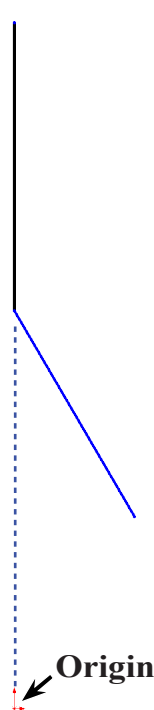
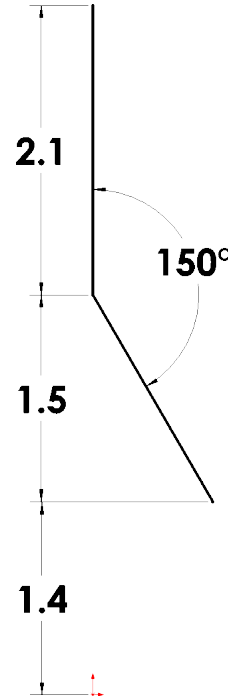

Fig. 2
Fig. 3
Step 3. Click **Line** (L) on the Sketch toolbar.
Step 4. Sketch a line starting directly above the Origin but do not sketch the line to the Origin, **Fig. 2**. Sketch a second line from bottom endpoint of first line at angle to the right. Do not bring the angle line down to Origin.
Step 5. Click **Smart Dimension** (S) on the Sketch toolbar.
Step 6. Add dimensions, **Fig. 3**.